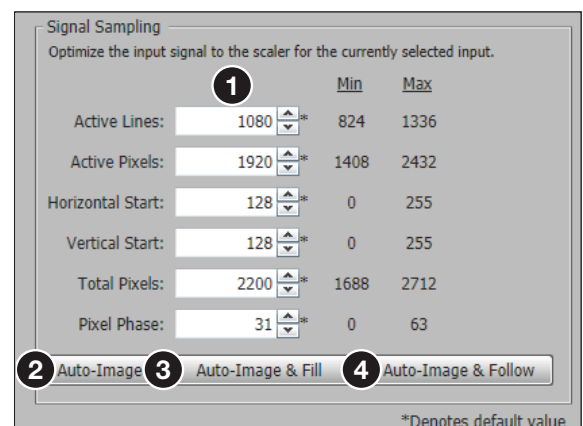

Figure 55. Signal Sampling Panel
To manually adjust signal sampling settings, enter a value within the Min and Max values displayed to the right of each adjustable setting, or click the **Up** or **Down** arrows (see figure 55, ❶). An asterisk beside a chosen value for a signal sampling setting indicates that it is a default value for the applied video signal.
- Click the **Auto-Image** button (see figure 55, ❷) to perform a one-time Auto-Image.
- Click the **Auto-Image & Fill** button (❸) to perform a one-time Auto-Image and fill the entire video output (ignores aspect ratio setting).
- Click the **Auto-Image & Follow** button (❹) to perform a one-time Auto-Image and to maintain the aspect ratio of the input signal (ignores aspect ratio setting).